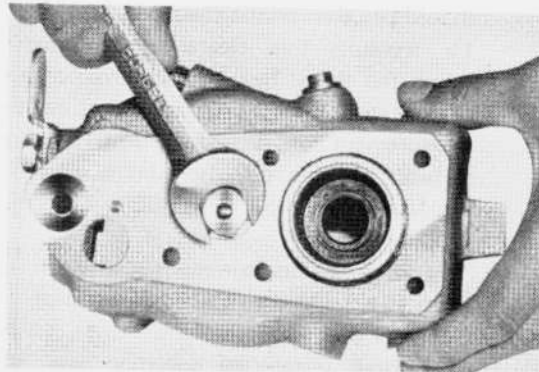

Fig. 3-168 Governor Shaft Removal
As per Fig. 3-168, loosen the lock nut (90) on the back of the governor housing, and remove the governor shaft (88).